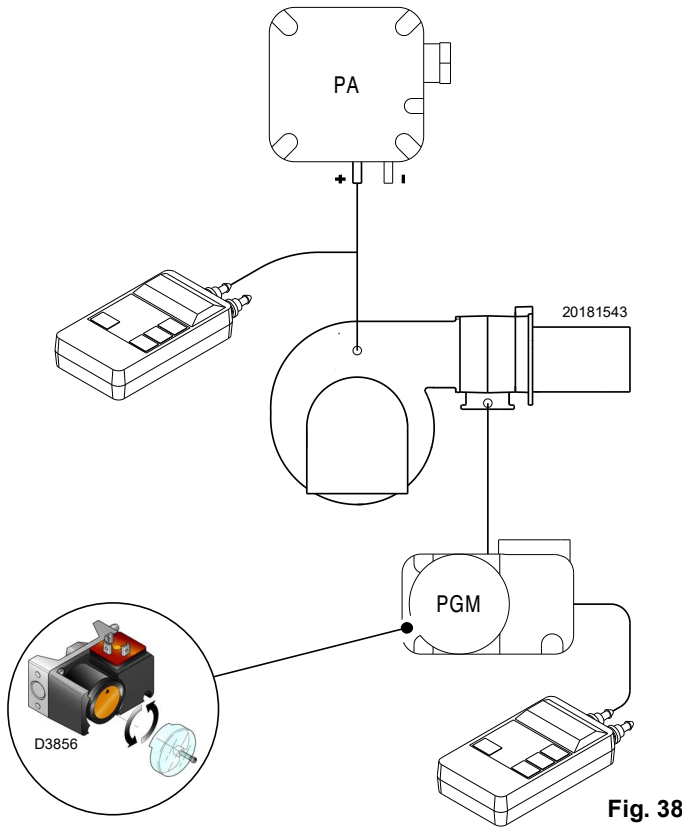

Fig. 38
- Adjust the maximum gas pressure switch (Fig. 38, page 29) to the end of the scale.
Adjust the maximum gas pressure switch (Fig. 38) after making all other burner adjustments with the maximum gas pressure switch set to the end of the scale.